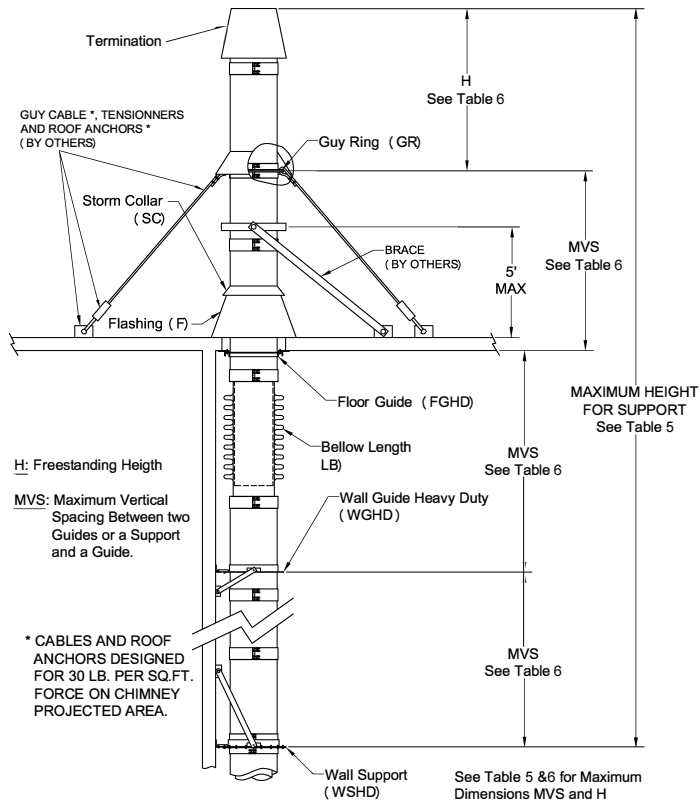

Figure 3 - Maximum Supported Height
- Supports and guiding methods and installation are described in SECTION E-SUPPORTS. Certain limitations apply for proper installation of supports and guides. See Tables 5, 6, 7 and Figures 3 and 4.
1. Proper guying and bracing is essential for part of the chimney that extends above the roof or parapet wall. The chimney at this point is subject to wind conditions and needs special attention for proper stabilization. See Figure 3.